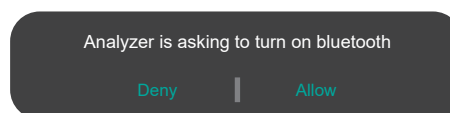

Figure 33. Allow Analyzer to turn on Bluetooth
- Tap allow to turn on the Bluetooth. See Figure 33.